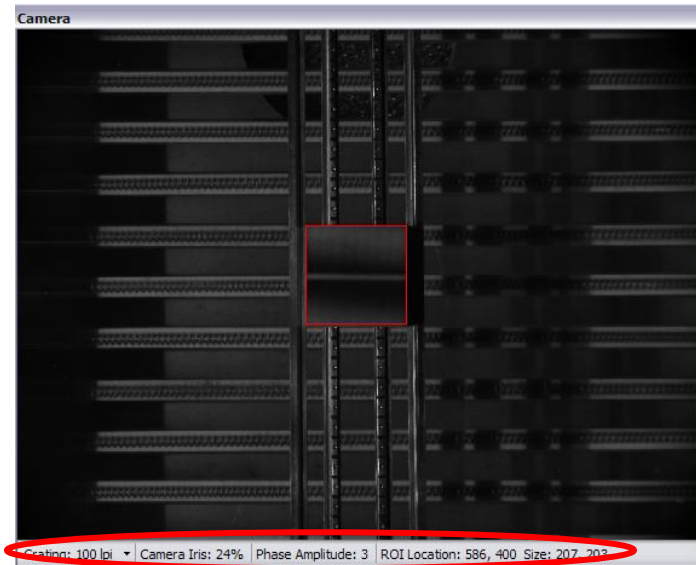

Figure 2.1 Camera Window, Information Bar Circled
1. Position the sample under the grating, using the Camera window (see **Figure 2.1**) to line up edges of the part so that they are more or less parallel with the edges of the camera view.
At the bottom of the Camera window (see **Figure 2.1**), an information bar displays relevant acquisition parameters for quick user reference. These include